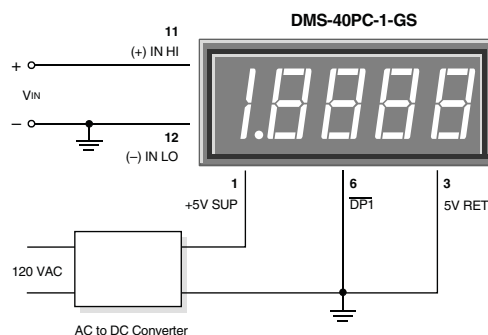

Figure 2. Single-Ended Input Configuration
1. Single-Ended Input Configurations: The DMS-40PC can measure single-ended signals with either positive or negative polarities. True single-ended inputs always have one of their two terminals at the same potential as the DMS-40PC's 5V RETURN (pin 3). Single-ended inputs are usually derived from power supplies that have a common ground with the meter's +5V supply. Figure 2 shows the recommended connections to be used with this type of input. Pin 12, (–) INPUT LO, is shown directly tied to ground. This connection to ground must be a separate wire or pc-board trace originating at V_M 's negative terminal. This hook-up will normally eliminate display instabilities and errors caused by ground-loop currents which can occur if (–) INPUT LO is tied to ground at, or near, pin 3.